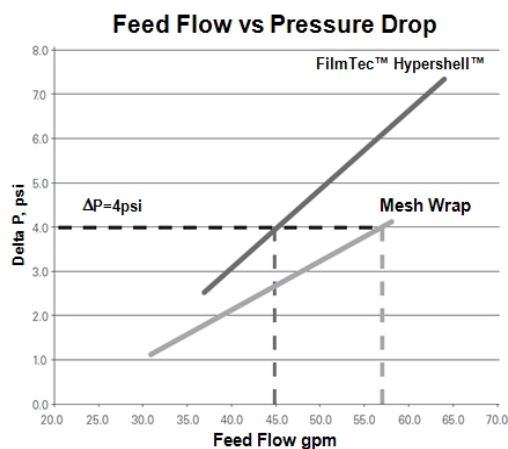

Figure 1: Pressure Drop vs. Feed Flow for Mesh wrap and FilmTec™ Hypershell™ 8038 Elements
- Improved bypass control compared to mesh wrapped elements, which results in energy savings (see Figure 1), improved processing, and efficient Clean In Place (CIP).